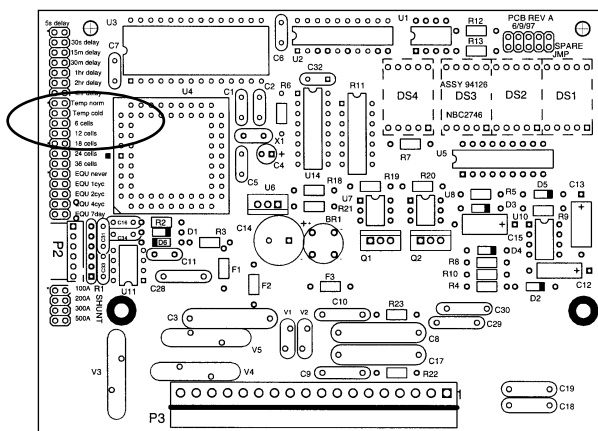

FIGURE 3.3-Cold storage
- 4) Move the jumpers to the desired setting, referring to Figure 3.3.